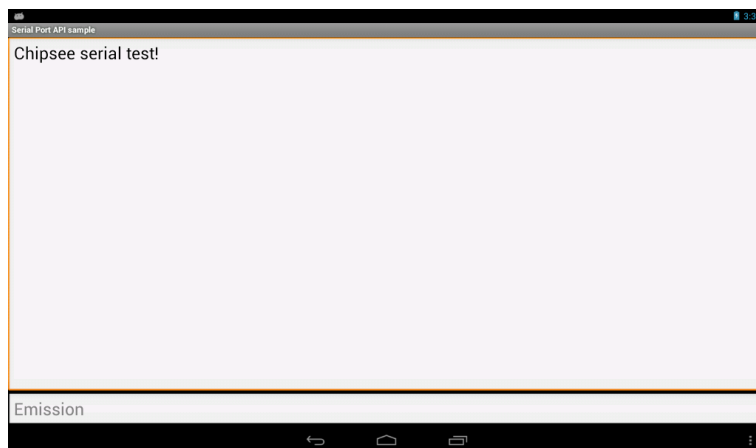

Figure 7 Serial receive test
(3) Push button “Console”, you can send what you want like Figure 7.